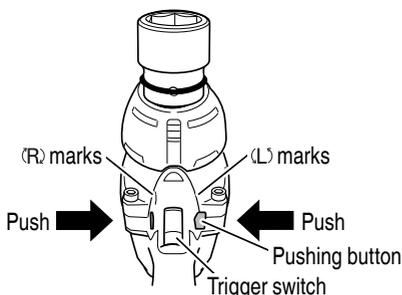

Fig. 14
The bit rotates clockwise (viewed from the rear side) by pushing the R-side of the pushing button. The L-side of the pushing button is pushed to turn the bit counterclockwise. (See Fig. 14). (The (L) and (R) marks are engraved on the body.)